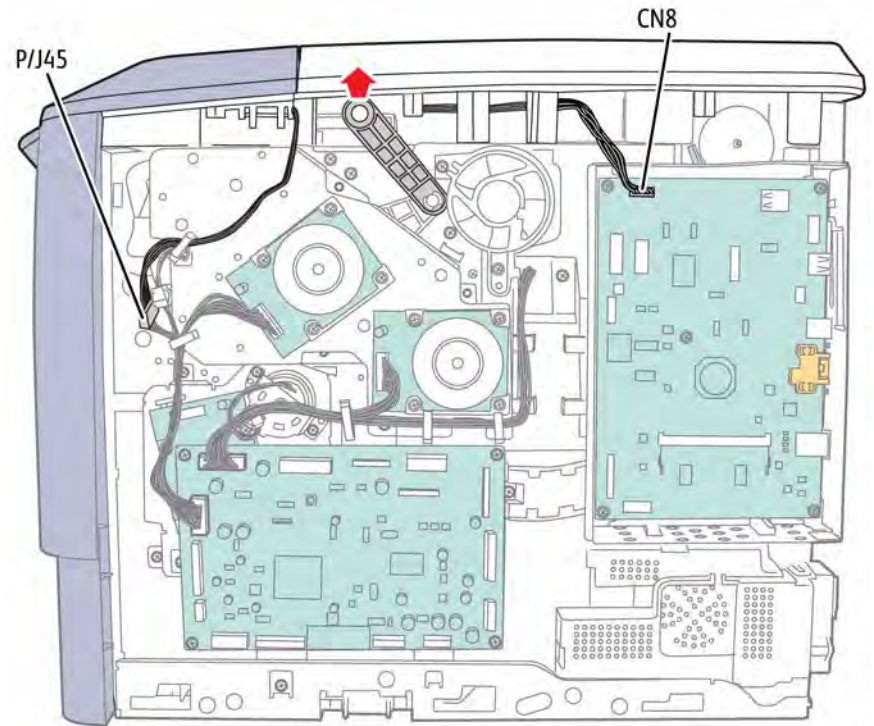

Figure 1 Disconnect the Control Panel and Top Door linkage
6. Disconnect CN8 from the IP Board and P/J45 from the harness, Figure 1.